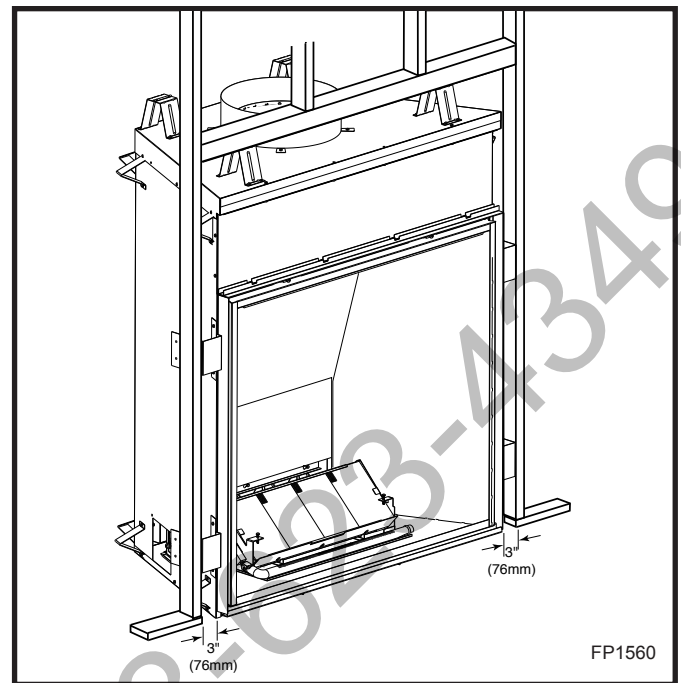

Fig. 6 Fireplace framing.
3. Frame the fireplace with a header across the top of the standoff. (Fig. 6) It is very important to allow for the finished wall face along with marble, tiles or any other noncombustible face finish material desired when setting the depth of the framing.